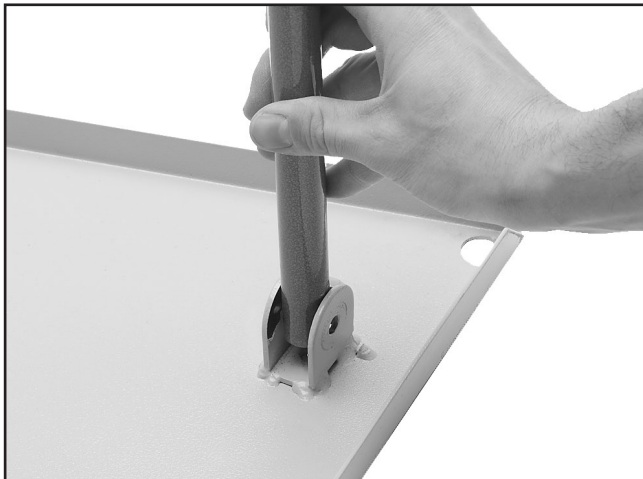

Figure 14. Installing table leg.
2. Insert a leg into a bracket and align the mounting holes, as shown in **Figure 14**.